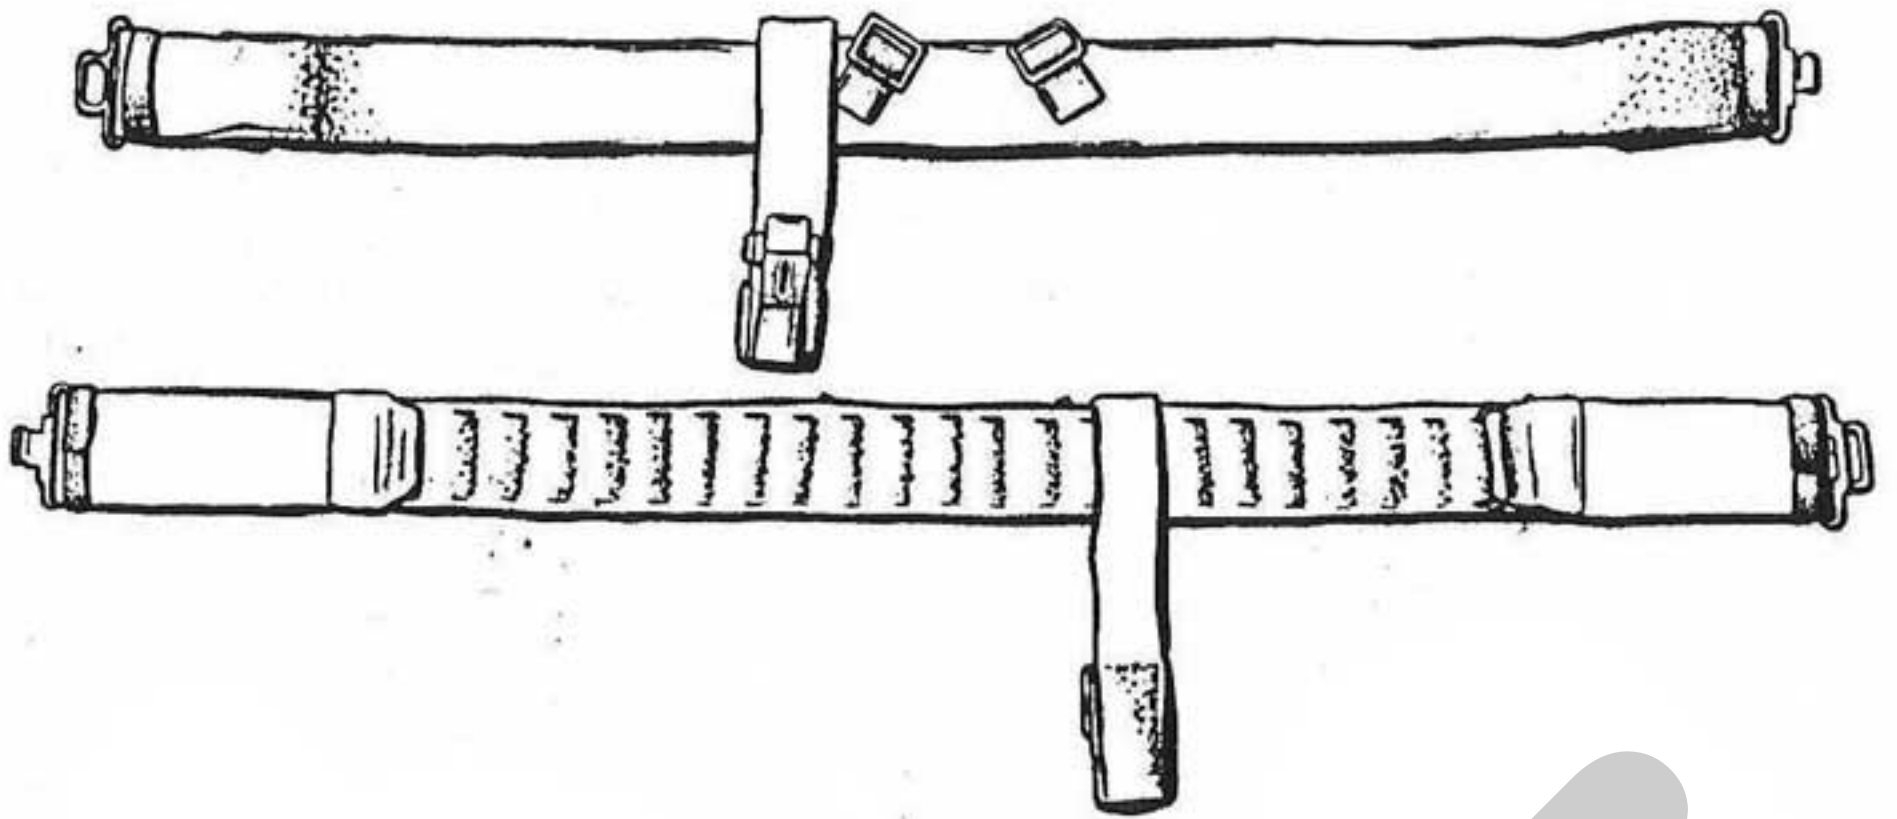

Fig. 3. Waist belt
9. The frog should be slid over the left end of the belt and pushed to the rear, adjacent to the left rear buckle. (See Fig. 3.)